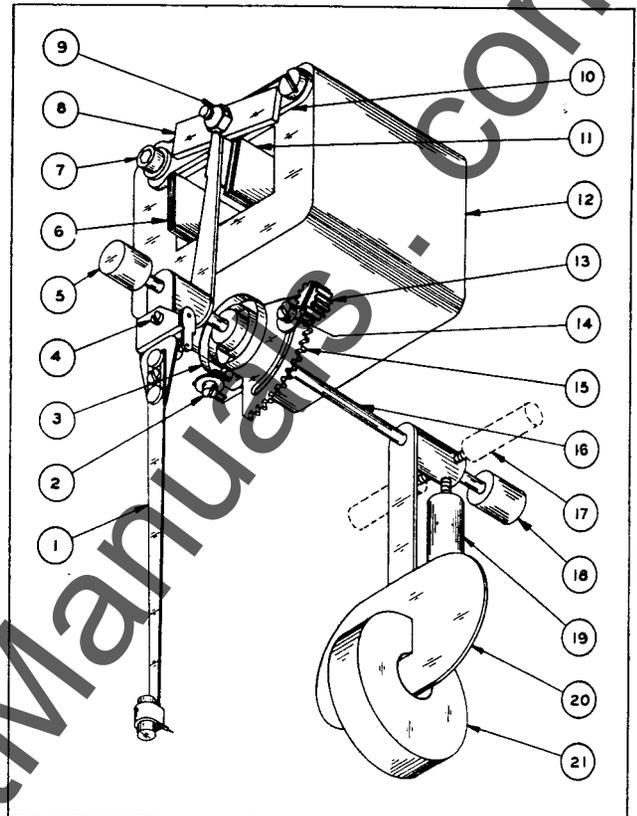

FIGURE 5. ISOMETRIC VIEW OF MOVING IRON ELEMENT
The actuating torque in the instrument is produced by repulsion between two pieces of magnetized soft iron located within the coil. One piece of iron (Item 11, Fig. 5) is movable. The moving piece is mounted on a shaft which also carries the pen arm, restoring spring and damping vane. The current being measured flows thru the windings of the coil. The magnetic field thus created magnetizes the two pieces of iron. Because they are in
1. **Voltmeters.** Connect a standard laboratory meter of known accuracy to the line terminals of a non-portable voltmeter or to the terminals marked "test" on a portable voltmeter. Apply voltage across the voltage terminals of the instrument. If the instrument does not read the same value as the test meter, loosen segment-gear locking screw (Item 14, Fig. 5) and turn point adjustment (Item 13, Fig. 5) in a direction to bring the pen to the correct value on the chart.
1. Portable Voltmeters. Connect a standard laboratory meter of known accuracy to the terminals marked "test". Apply the minimum value (as indicated on the chart by the lowest value) across the terminals of the instrument marked "voltage". The instrument should read exactly what the test meter reads. If it does not, loosen the segment-gear locking screw (Item 14, Fig. 5) and turn point adjustment (Item 13, Fig. 5) in a direction which will bring the pen to the correct value as indicated on the test meter.
Next, apply the maximum value (as indicated on the chart by the highest value) across the voltage terminals of the instrument. The instrument should read exactly what the test meter reads. If it does not, rotate the magnetic shunt (Item 8, Fig. 5) in a direction to correct the instrument reading. This adjustment can be made merely by rotating the shunt by hand. This shunt is held in place by an elastic stop nut (Item 9, Fig. 5) which need not be disturbed when adjusting the shunt.
The third check should be made by applying a voltage about midway between maximum and minimum to the voltage terminals. The instrument should read exactly what the test meter reads. If it does not, the magnetic-shunt mounting arm must be moved. This is done by loosening the lock screw (Item 7, Fig. 5) and moving
magnetic-shunt mounting arm (Item 10, Fig. 5) up or down as required. Lower the mounting arm if the instrument reads low or raise it if the instrument reads high. Do not disturb the position of the magnetic shunt on the mounting arm.
1. General. The armature includes all parts mounted on shaft (Item 16, Fig. 5) and includes such items as the moving iron piece, pen and pen arm, vane and counterweight.